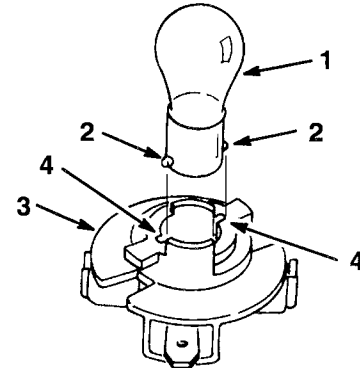

Figure 18
4. Push and rotate the bulb counterclockwise until it stops (approx. 1/4 turn) and remove bulb from the bulb holder (Fig. 18).
1. The bulb has metal pins on the side of its base. Align the pins with the slots in the bulb holder and insert the base into the holder (Fig. 18). Push and rotate the bulb clockwise until it stops.